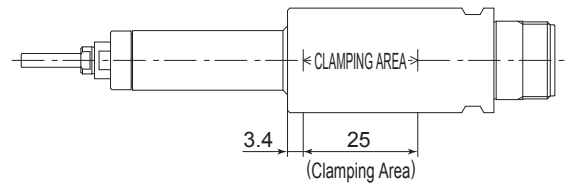

Fig. 5
- ① When mounting a Spindle, refer to the Clamping Area etched on the Spindle (Fig. 5).